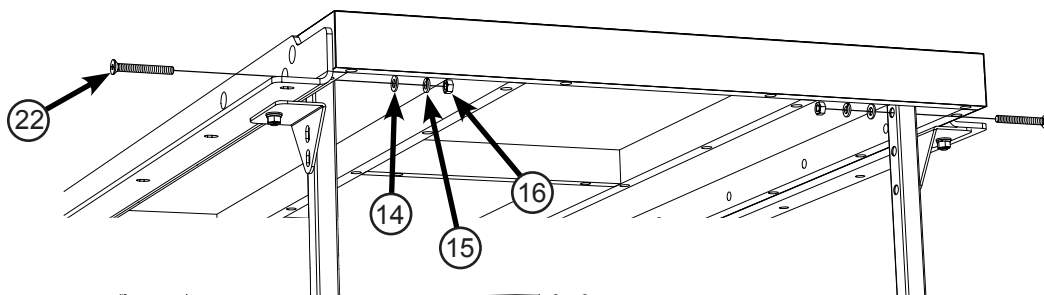

Fig. 8
The support legs attach to the outer ends of the rails and extension table with M8 x 65 countersunk socket head bolts (22). Align the top hole in one support leg with the second-outermost hole in the front rail, and the top hole in the second support leg with the outermost hole in the back rail. Make sure the legs are positioned against the inside of the extension table. Insert M8 x 65 bolts (22) through the holes in each of the rails, extension table and each of the legs. Place an M8 washer (14) and an M8 lock washer (15) on the threaded end of each bolt and then thread an M8 hex nut (16) onto each bolt (see Fig. 8). Hand tighten the nuts; do not fully tighten them.